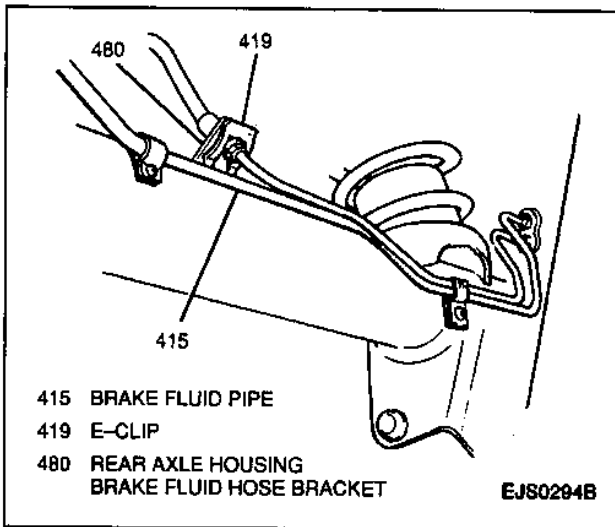

Figure 29—E-Clip and Brake Fluid Pipe Clamp Screws
21. One E-clip and brake fluid hose from rear axle housing brake fluid hose bracket (Figure 29).
22. Five screws from brake fluid pipe clamps and separate brake fluid pipes from rear axle housing (Figures 29 and 30).
9. Brake fluid pipes and five brake pipe clamps to rear axle housing; secure with five screws (Figures 29 and 30).
10. Brake hose to rear axle housing brake hose bracket; secure with E-clip (Figure 29).